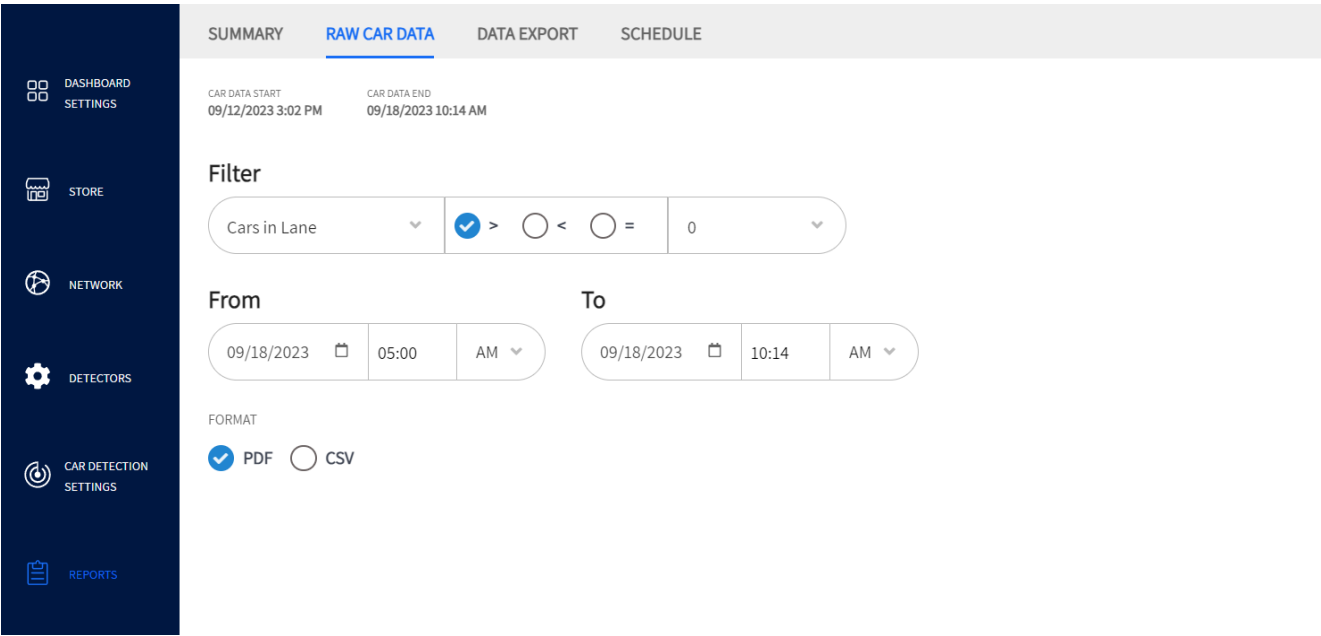

Fig. 8.2
**Example:** Fig. 8.2 shows an RCD report for Cars in Lane greater than zero for the hours between 05:00 AM and 10:14 AM of September 18, 2023. PDF is the selected export format.